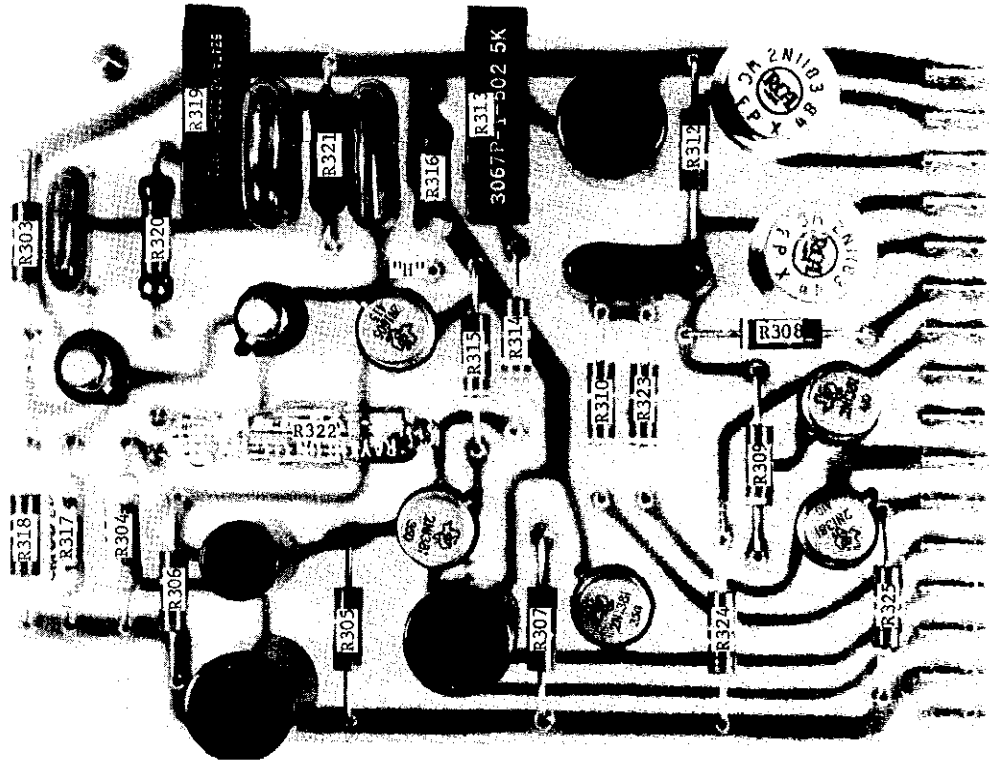

FIGURE 28. Resistor and Test Point Locations on Printed Circuit 75. An alternate location for point H is shown in Figure 20.
2. Set the oscillator frequency to 94 cps ± 0.1 cps with potentiometer R319 (Figure 28).
3. Set the oscillator signal amplitude to 15.4 volts peak-to-peak ± 0.2 v peak-to-peak, measured on the oscilloscope. Adjust with potentiometer R313 (Figure 28).